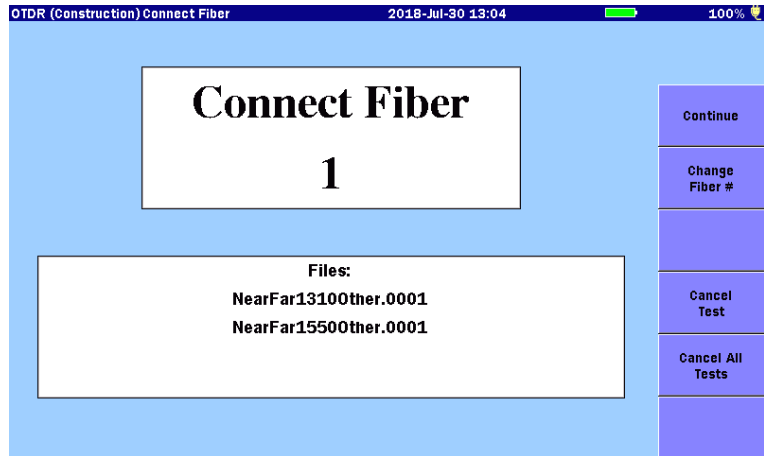

Figure 6.4-1 Connect Fiber Screen
The ACCESS Master starts testing the fiber when touching **Continue** on the Connect Fiber Screen (Figure 6.4-1).
6. Touch **Continue**. The Connect Fiber screen (Figure 6.4-1) is displayed.